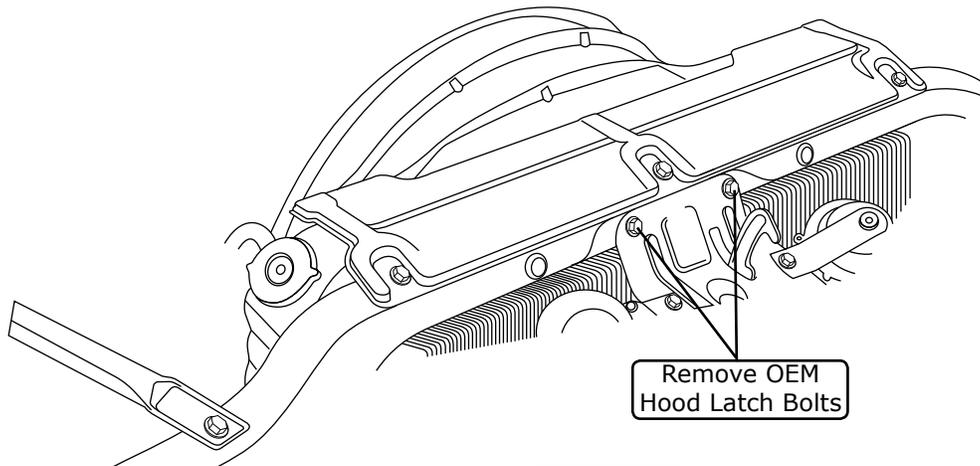

Figure 7
1. Remove the (2) OEM hood latch bolts from the hood latch assembly (See Figure 7, below).